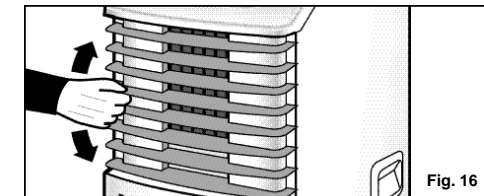

Fig. 16
- 8) To adjust "air flow" direction, (up / down only) adjust any one of the **Horizontal Louver Blades (excluding the top or bottom louver)** and the remaining louvers will automatically adjust to the set position (**excluding the top and/or bottom louvers**). *Fig. 16*.